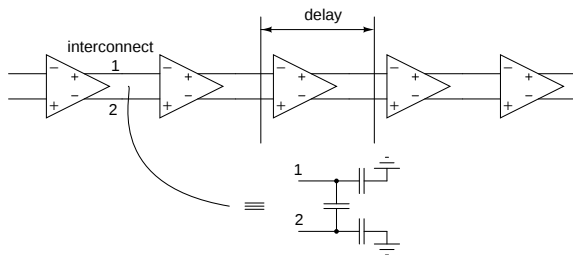

Figure 1: Problem 1
2. Simulate the chain of inverters as shown in Fig. 1. Model the parasitic capacitance of interconnects between inverters. Assume that they are on metal 2 layer, 10 μm long, 0.25 μm wide, and 0.5 μm apart. Scale the bias current to obtain 100 ps delay through each inverter. Delay is the difference between input and output zero crossings of the middle inverter.